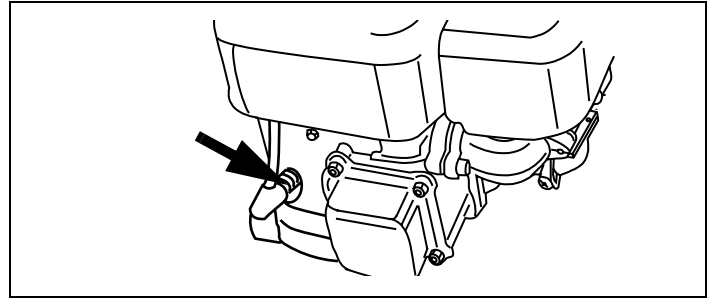

Figure 25. Typical Spark Plug Connection
1. Carefully disconnect spark plug wire and keep it away from spark plug. See Figures 25 and 26.
8. Connect spark plug wire to spark plug before attempting to start engine. See Figures 25 and 26.